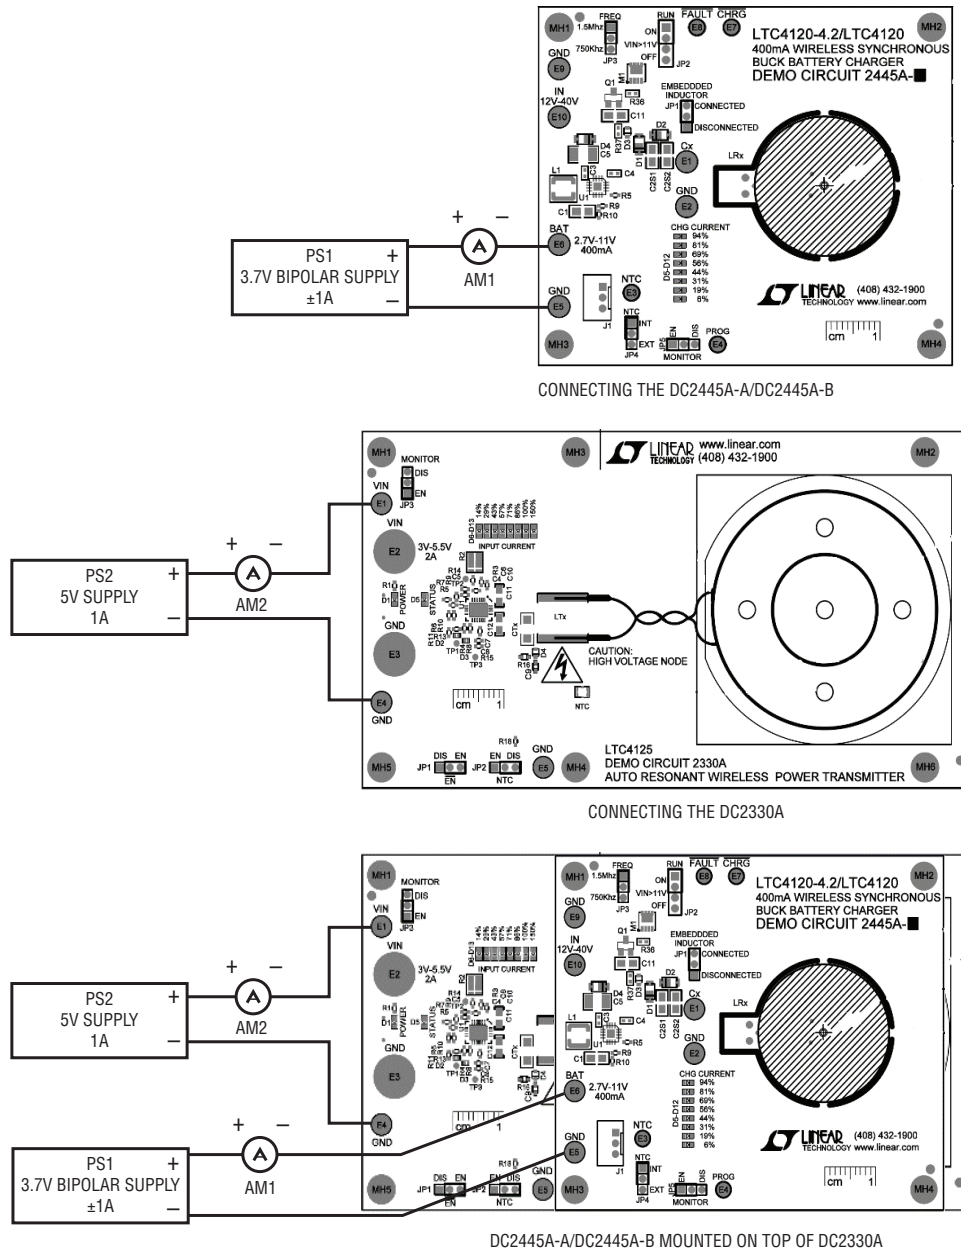

Figure 4. Equipment Setup for DC2386A-A/DC2386A-B Kit
Refer to Figure 4 for the proper measurement equipment setup and jumper settings, DC2445A mounting on DC2330A, and follow the procedure below.
- Place the DC2445A-A/DC2445A-B board atop the DC2330A board, by aligning: (See Figure 4)